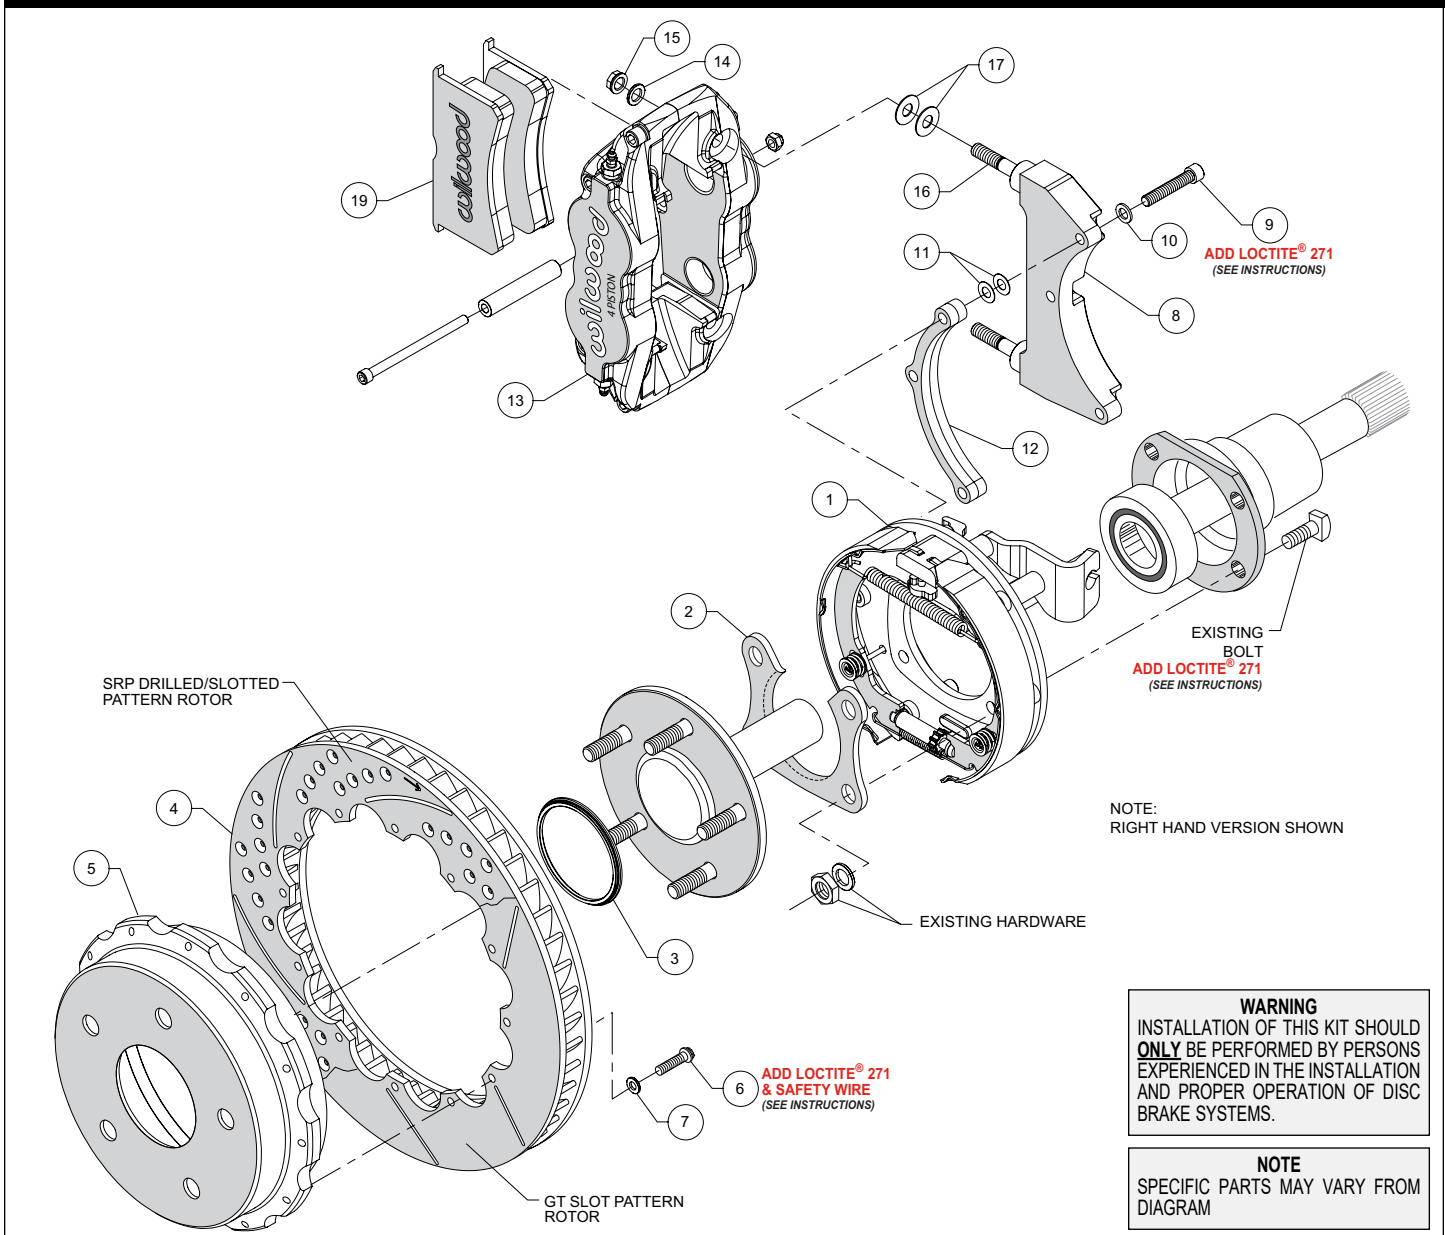
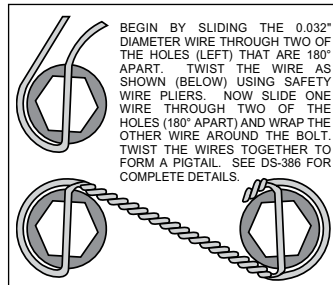

Figure 1. Typical Installation Configuration
Figure 5. Safety Wire Diagram
Assembly Instructions (numbers in parenthesis refer to the parts list, and Figure 1 on the preceding pages): **CAUTION:** All mounting bolts must fully engage clinch nuts. Be sure to check that all bolts are either flush or protruding through flanged side of clinch nut after shimming.
- Orient the bracket assembly (1) as shown in Figure 1 and Photo 1 and slide it onto the axle. Insert the axle and bracket into the axle housing. Ensure that the bracket assembly backing plate fits flush against the axle housing flange.
- Install the bearing retainer (2) with the opening pointing upward and the lip facing inward (toward the bearing), as shown in Figures 1 and 4, and Photo 2. Secure retainer and bracket assembly to the axle housing flange using the Original Equipment Manufacturer (OEM) bolts, washers, and nuts, Figure 1. Apply red *Loctite*® 271 to the OEM bolt threads and torque to OEM specifications.
•**NOTE:** Please reference the caution statement at the beginning of the assembly instructions. The caliper mounting bracket (8) should initially be installed with clean, dry threads on the mounting bolts. Orient the bracket as shown in Figure 1 and Photo 3, and install using bolts (9) and flat washers (10). Initially place two .015" shim washers (11) on each bolt between the bracket (8) and spacer (12), Figure 1. Temporarily tighten the mounting bolts. **NOTE:** End of bolt should not exceed inside face of insert. The bracket must tighten squarely against the back side of the bracket kit assembly (1). Inspect for interference from casting irregularities, machining ridges, burrs, etc. Later, after the caliper alignment has been checked, the mount bolts will be secured using red *Loctite*®.
•Orient the rotor (4) and the hat (5) as shown in Figure 1 and Photo 4. Attach rotor to hat using bolts (6) and washers (7). Apply red *Loctite*® 271 to the bolt threads and torque to 140 in-lb using a criss-cross pattern. For an added measure of security, the bolts may be safety wired using standard 0.032 inch diameter stainless steel safety wire as shown in Figure 5. Please refer to Wilwood's data sheet DS-386 (available at www.wilwood.com/Pdf/DataSheets/ds386.pdf) for complete safety wire installation instructions.
•Slide the rotor registration adapter (3) onto the axle register on the axle flange with the smaller O.D. facing toward the rotor/hat (4/5), Photo 5. Align the hole pattern in the hat with the stud pattern on the axle flange and slide into place, Figure 1 and Photo 6. **NOTE:** The rotor/hat must fit flush against the axle flange or excessive rotor run out may result. Install three lug nuts (finger tight) to keep the rotor/hat assembly in place while continuing with the installation. **NOTE:** Some OEM and after market axles come with stud sizes larger than 0.50" diameter. Verify stud size and have a qualified machine shop drill the bolt circle of the hat/rotor to the correct stud size, if necessary.
•Initially place two .035" thick shims (17) on each stud as shown in Figure 1 and Photo 7. Mount the caliper (13) onto the bracket (8) using lock nuts (15) and washers (14), Figure 1. Temporarily tighten the lock nuts and view the rotor through the top opening of the caliper. The rotor should be centered in the caliper, Photo 8. If not, adjust by adding or subtracting shims (11) between the bracket (8) and the spacer (12). Always use the same amount of shims on each of the three mounting bolts. Once the caliper alignment is correct, remove the bracket mounting bolts (9) one at a time, apply red *Loctite*® 271 to the threads, and torque to 180 in-lb.